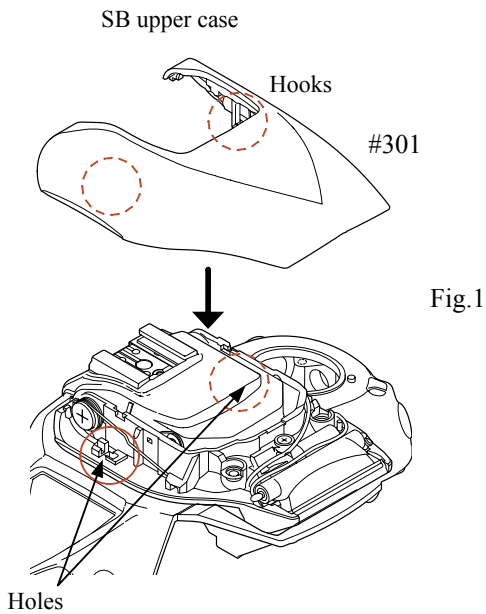

Fig.1
- While sliding the SB lower case (#301) downwards, attach its two hooks to the holes. (Fig.1)